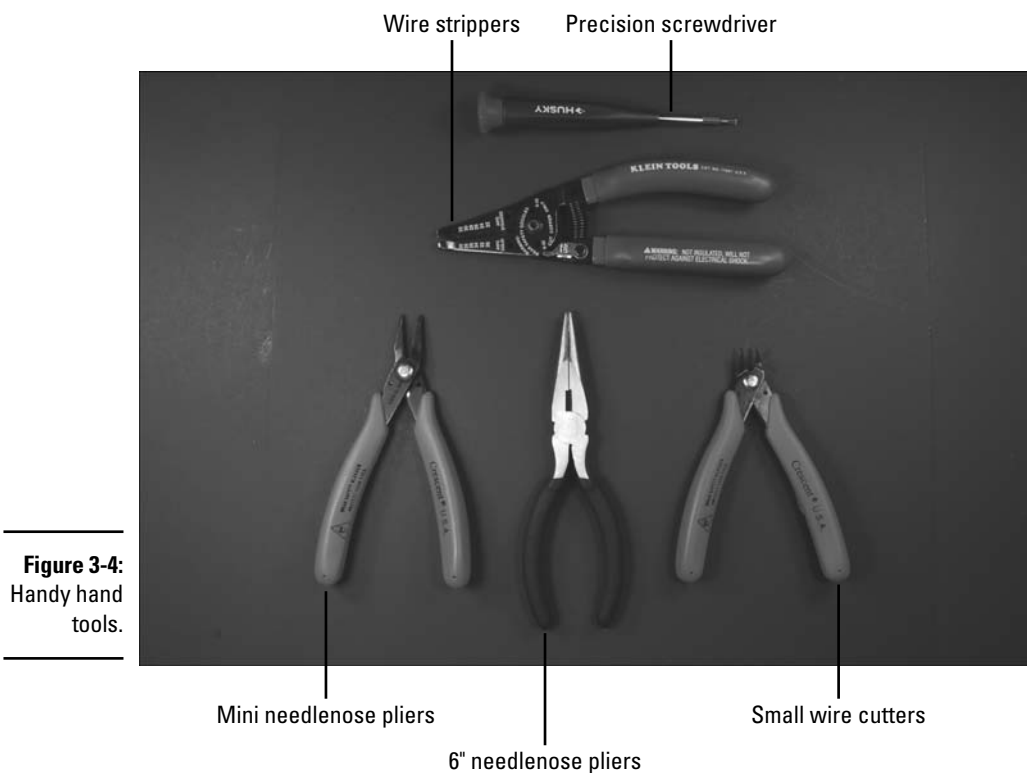

Figure 3-4:
- ✓ **Standard sized needlenose pliers:** These are useful for tasks where you need to apply more strength than mini needlenose pliers can handle. You can see both standard-sized needlenose pliers and the smaller version in Figure 3-4.
- ✓ **A small pair of wire cutters:** These are useful for clipping wires in close quarters, such as above a solder joint. The standard size of wire clippers you find at hardware stores is so large that you might have trouble clipping the wire with enough precision. You can see the smaller version in Figure 3-4.